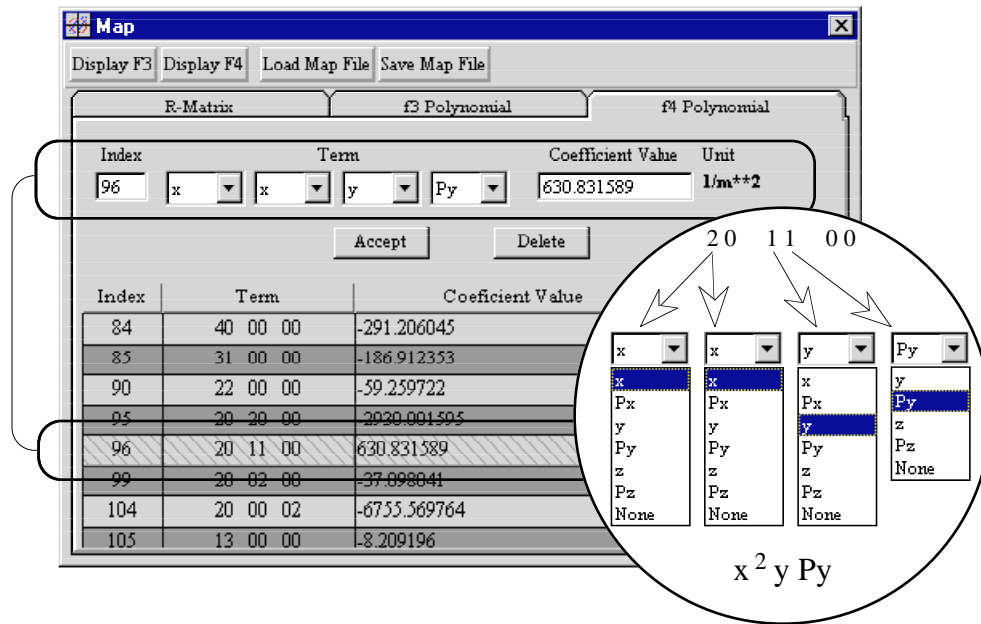

Figure 10 Map Piece Window - $f4$ Polynomial Terms..
Figure 10 illustrates an example for the “ x^2yPy ” polynomial term (index 96). The first and second pop-ups are set to “x”, representing x^2 , the third pop-up is set to “y” so the fourth pop-up can only contain {y,Py,z,Pz and None}. If “z” was selected then the fourth pop-up would contain {z, Pz and None}. These pop-up selections define the MARYLIE term code (20 11 00), which in turn has an associated index (96), which together identify a particular polynomial term “ x^2yPy ”.